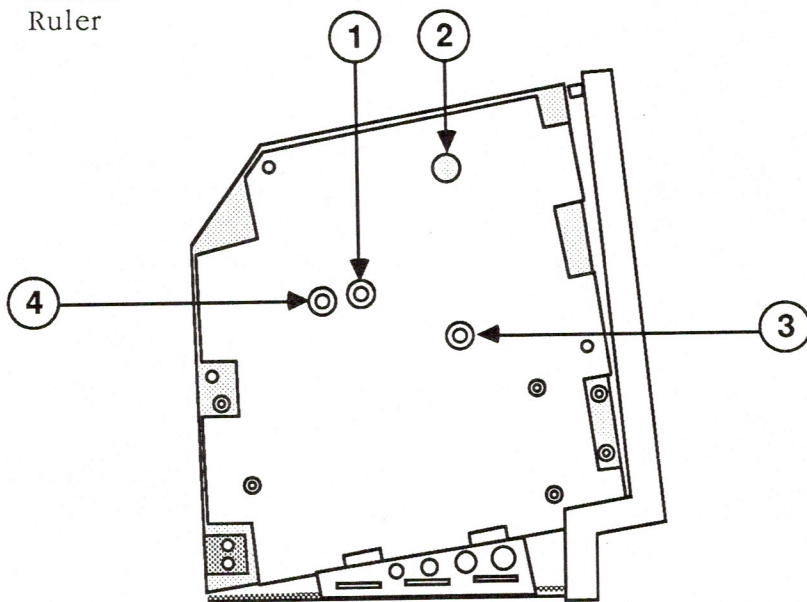

FIGURE 2
5. Adjust the brightness control (Figure 2, #1) with the alignment tool: turn it fully counterclockwise so that white lines are visible on the screen. Then turn it back in the opposite direction until the white lines just disappear.
7. Use the alignment tool to adjust the width (Figure 2, #2) until the picture is approximately 7 inches wide.
8. Use the alignment tool to adjust the height (Figure 2, #3) until the picture is approximately 4.7 inches high.
9. Turn the focus adjustment (Figure 2, #4) all the way clockwise until it doesn't turn anymore. Now turn it back in the opposite direction (counterclockwise) one-eighth of a turn. This setting gives the best overall sharpness at all points on the screen.